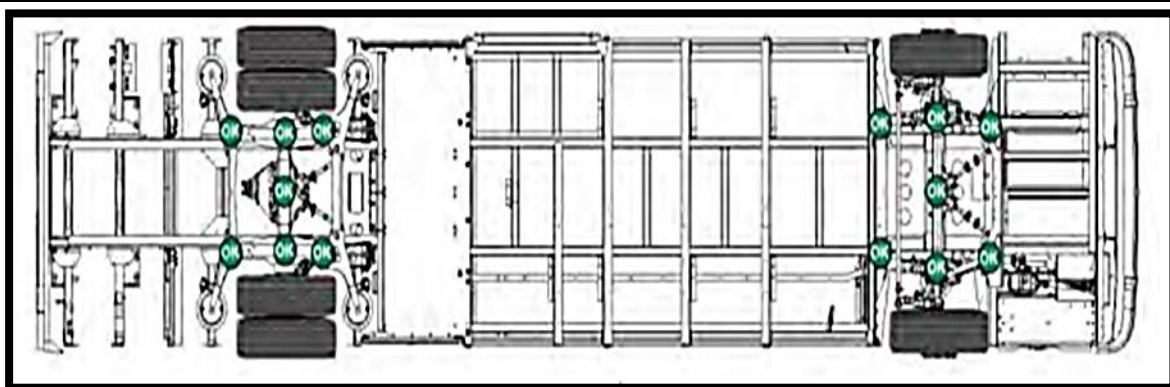

Fig. 4.19: Floor Jack Must be Located Properly
7. The (Fig. 4.19) to prevent the possibility of the jack sliding from under the bus.